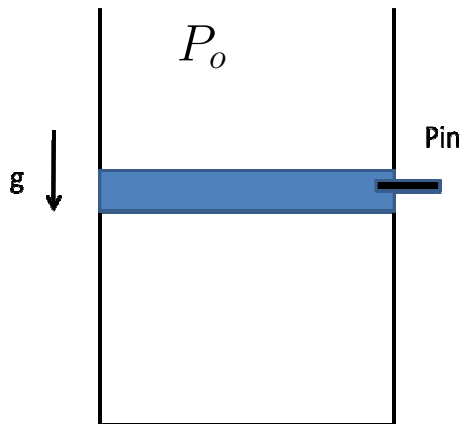

Figure 3: Schematic for Problem 3
- 22 3. Carbon Monoxide is enclosed in the piston/cylinder system shown in Figure 3 with the piston initially fixed in position by a pin enclosing a volume of $V_1 = 200$ L (State 1). The pin is released and the piston reaches its equilibrium position (State 2) at its floating pressure P_2 and a volume $V_2 = 150$ L. The Carbon Monoxide is then cooled, coming to rest with an enclosed volume of $V_3 = 100$ L (State 3). The initial pressure of the Carbon Monoxide is $P_1 = 175$ kPa, the temperature at State 2 is $T_2 = 200^\circ\text{C}$, and the pressure at State 3 is $P_3 = 125$ kPa. Treat Carbon Monoxide as an ideal gas.